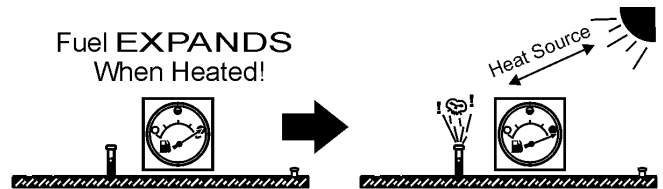

Figure 34. Fuel Expansion
**DO NOT OVERFILL** fuel system. Leave room for fuel expansion. Fuel expands when heated (Figure 34).